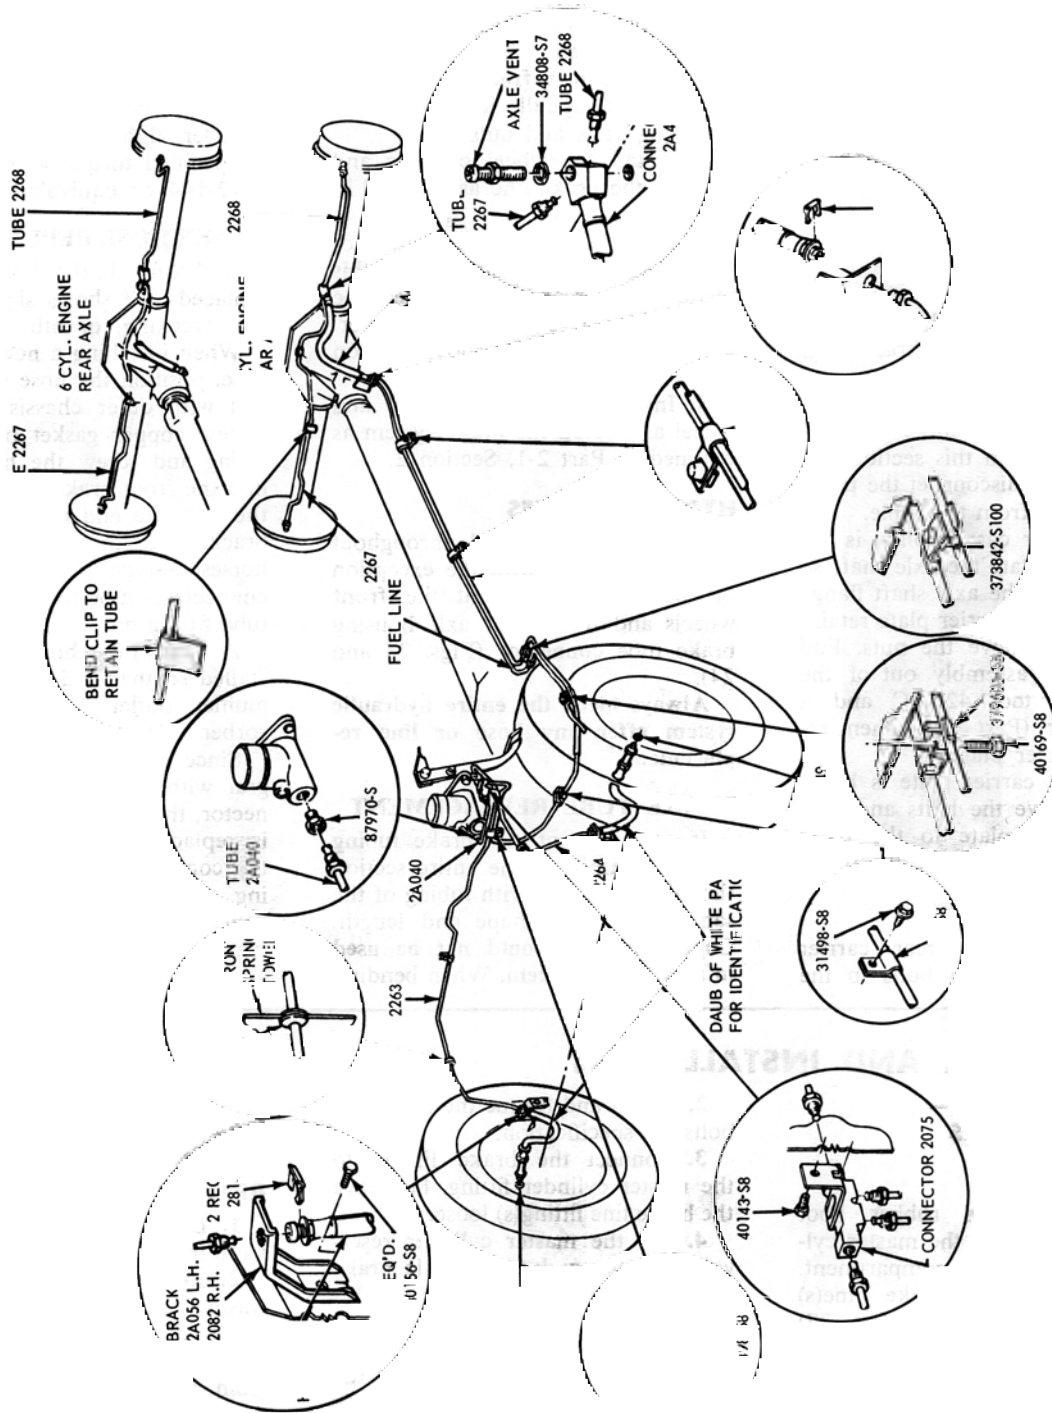

FIG. 4—Hydraulic Brake System—Mustang
1. Before installing the master cylinder, check the distance from the outer end of the push rod to the master cylinder mounting surface at the end of the vacuum cylinder (Fig. 4 or 5, Part 2-1). If the push rod dimension is not correct, see Master Cylinder Push Rod Adjust-